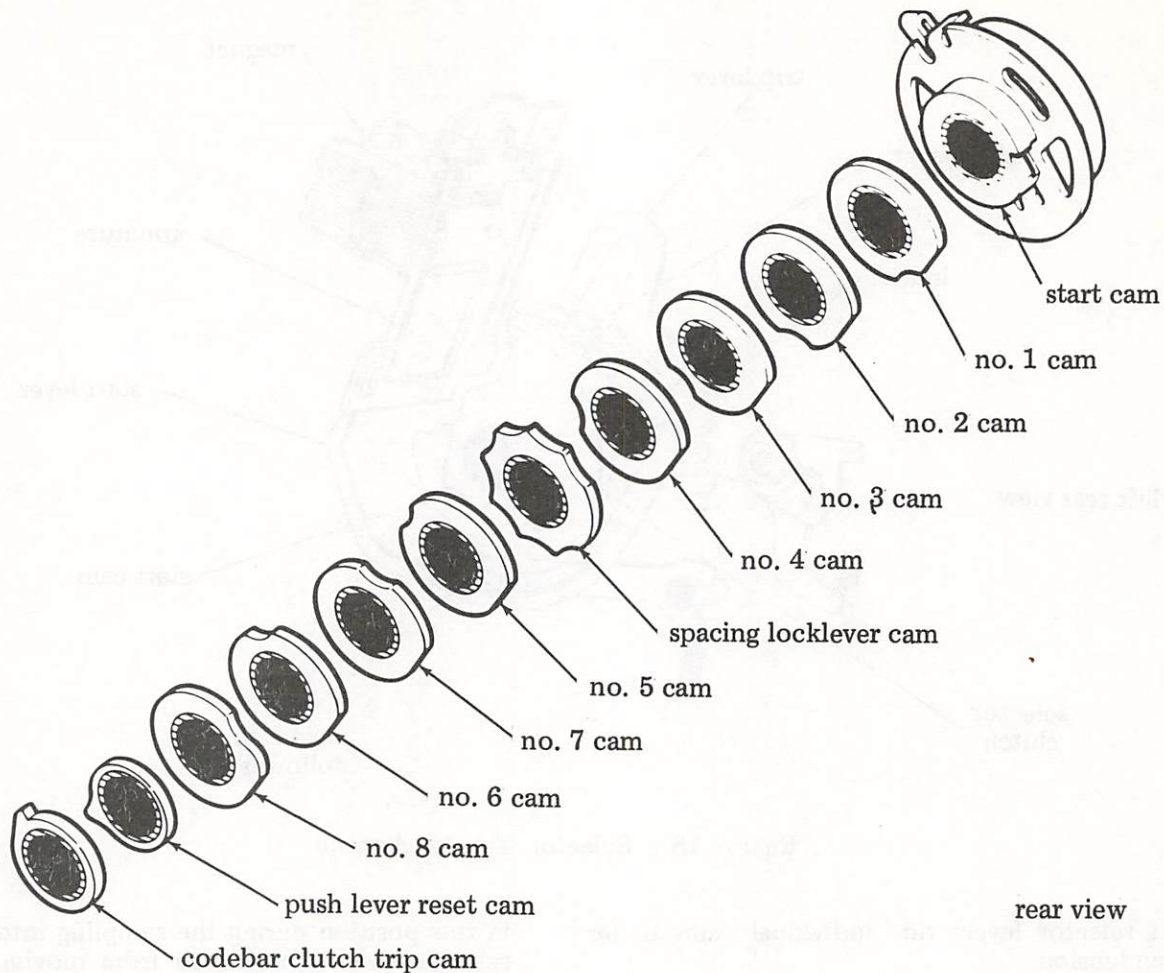

Figure 19 - Selector Cam Sleeve
4.36 The selector cam sleeve illustrated in Figure 19 has twelve cam surfaces. The cam surfaces are positioned in a staggered fashion so that a sampling sequence can take place. As mentioned in 4.32 and 4.33, the start cam performs its function, and soon after the push lever reset cam is operated. Following these, the spacing locklever cam and the eight intelligence cams operate in sequence.